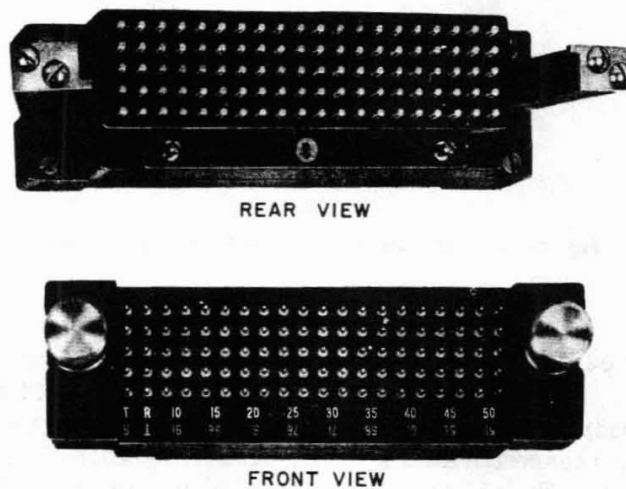

Fig. 1—G Test Connector—Front and Rear View
2.01 The G test connector (AT-8353), shown in Fig. 1, consists of 100 contacts mounted in a plastic housing. Each contact consists of a gold-plated brass plunger, a gold-plated brass spike, and a gold-plated music wire spring which bridges the plunger to the spike. The spring also presses the plunger against the recessed test button on the 302 type 3 connectors. The spikes on the face of the test connector thus protect the gold-plated buttons of the 302 connector from damage when a B test point is used.